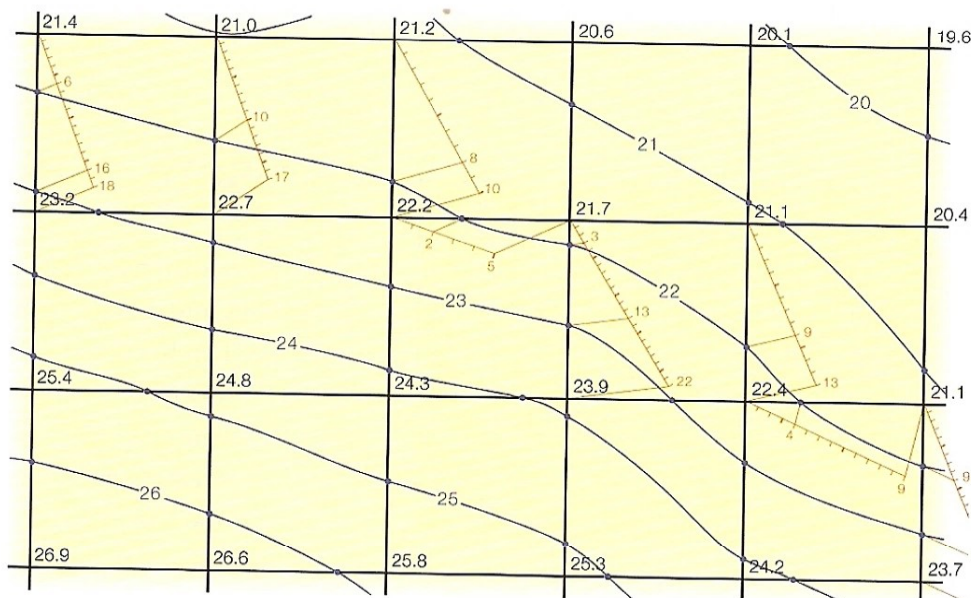

Fig. 19.11
- (1) If using a template it should be constructed to have at least 26 spaces and the CD line should be longer than 50 mm.
- (2) By proportional division of the sides of the grids the contours may also be found. Contour 22 is shown in Fig. 19.11.